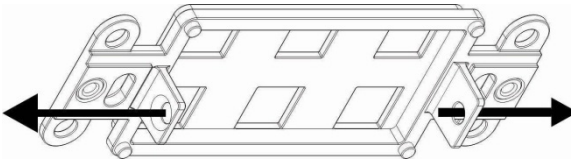

Figure 7: Removing the Button Cover Plate Mounting Screws
1. Remove the Decora front plate from the device by removing the two button cover plate mounting screws (see Figure 7) and remove the button cover plate. Put the screws aside.